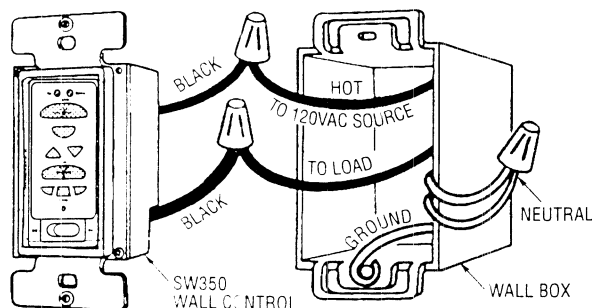

Figure 11
3. Connect one black wire of wall control to the "hot" wire. Securely connect wires with wire connectors supplied (Figure 11).